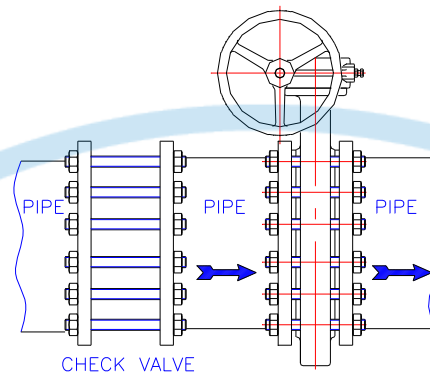

Fig.8
- 7.8. Using an extension tube between wafer check valve and butterfly valve, never connect them directly. (Fig.8)